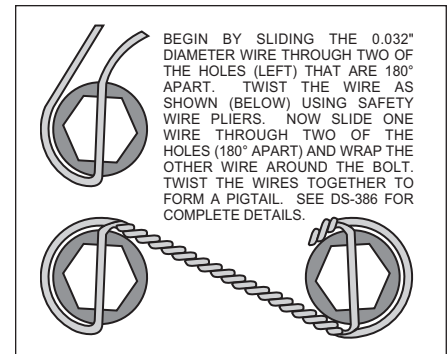

Figure 3. Safety Wire Diagram
- With the larger I.D. side of the rotor (5) facing away from the hat (6), bolt rotor (5) to hat (6) through the backside of the rotor using washers (7) and bolts (8). Torque bolts (8) in an alternating sequence to 85 **in-lb**. Safety wire bolts (8) using standard 0.032 inch diameter stainless steel safety wire as shown in Figure 3. Please refer to Wilwood's data sheet DS-386 (available at [www.wilwood.com/pdf/ds386.pdf](http://www.wilwood.com/pdf/ds386.pdf)) for complete safety wire installation instructions. Slide the rotor/hat assembly onto the spindle. Check to be sure the hat seats squarely against the hub. Install a couple of lug nuts (finger tighten) to keep the rotor/hat assembly in place while continuing with the installation.